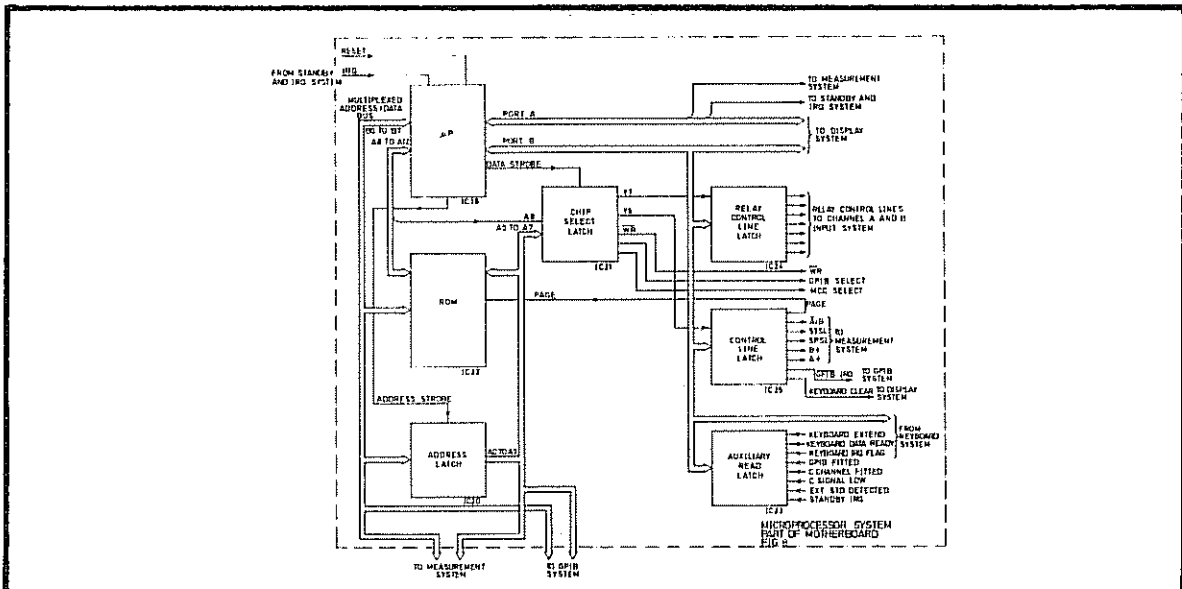

Fig 6.8 The Microprocessor System
- 67 A block diagram of the system is given in Fig 6.8. The microprocessor used has a 5-bit bus for the high-order address bits and an 8-bit multiplexed bus which is used for the low-order address bits and for data. The low-order address bits are strobed into the address latch, which holds them on an 8-bit address bus, to free the multiplexed bus for data.